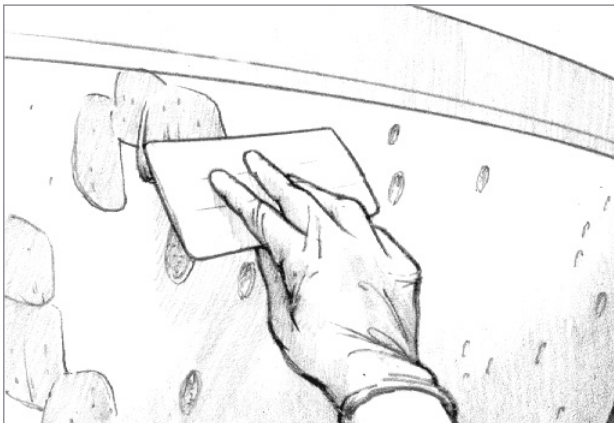

Figure 4-7 Trowel thickened fairing compound into the blister cavities with a plastic squeegee.
5. Apply the fairing compound into the blister cavities with a plastic spreader before the wet-out reaches its final cure phase. If the wet-out coat has reached its final cure, wash and sand the surface before applying the compound. Hold the squeegee at a low angle to leave the mixture smooth and filled slightly higher than the surrounding surface (*Figure 4-7*). Remove any excess epoxy before it cures.